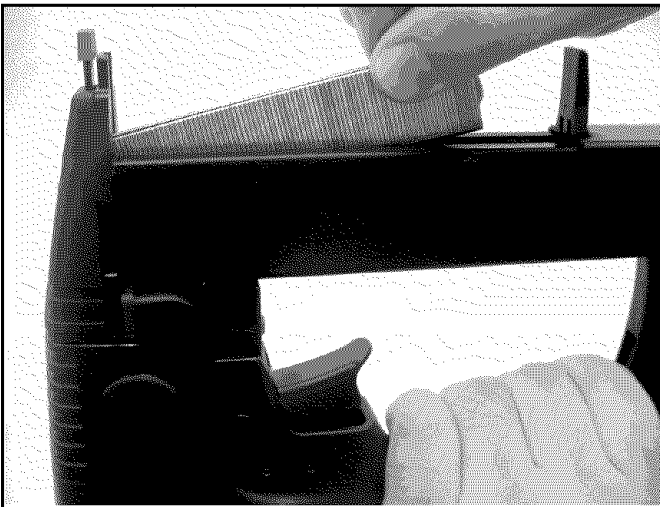

Figure 3 - Load Magazine
- Insert fasteners into magazine. Place fasteners into magazine with the chisel points of the staples facing up (see Figure 3).